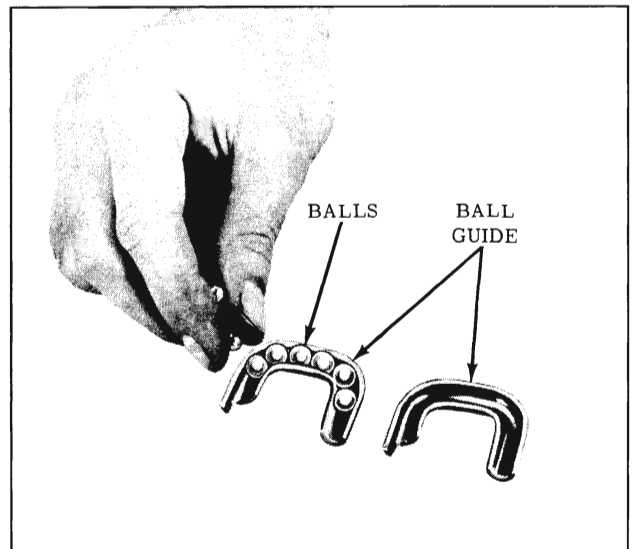

Fig. 4-220 Installing Balls in Guides
3. Lay one-half of the ball guide, groove up, on the bench and place the remaining balls from the count container in it (Fig. 4-220).